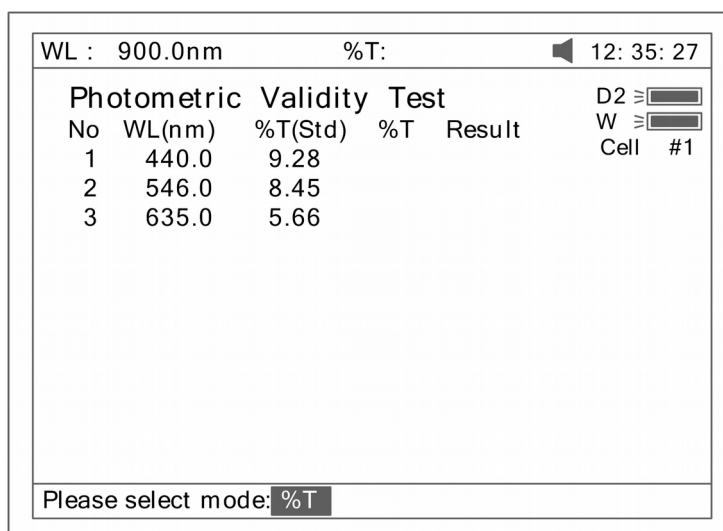

Fig 92
3. Press **(F2)** to select test mode (Abs or %T, Fig 92).